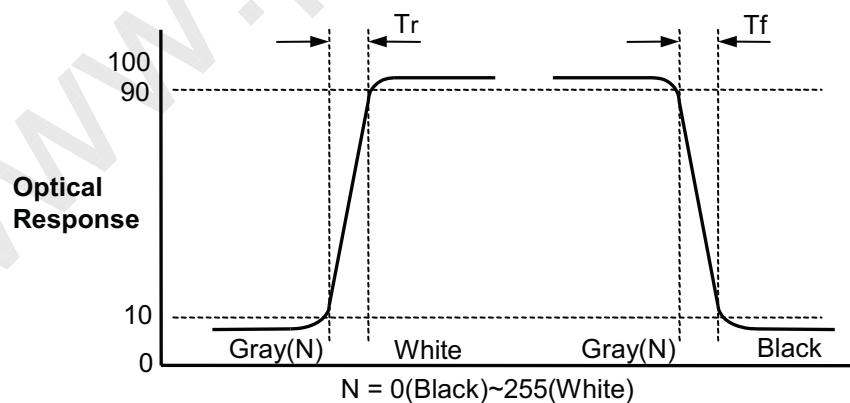

FIG. 3 Response Time
- Response time is the time required for the display to transit from any gray to white (Rise Time,  $T_{rR}$ ) and from any gray to black (Decay time,  $T_{rD}$ ). For additional information see the FIG. 3.